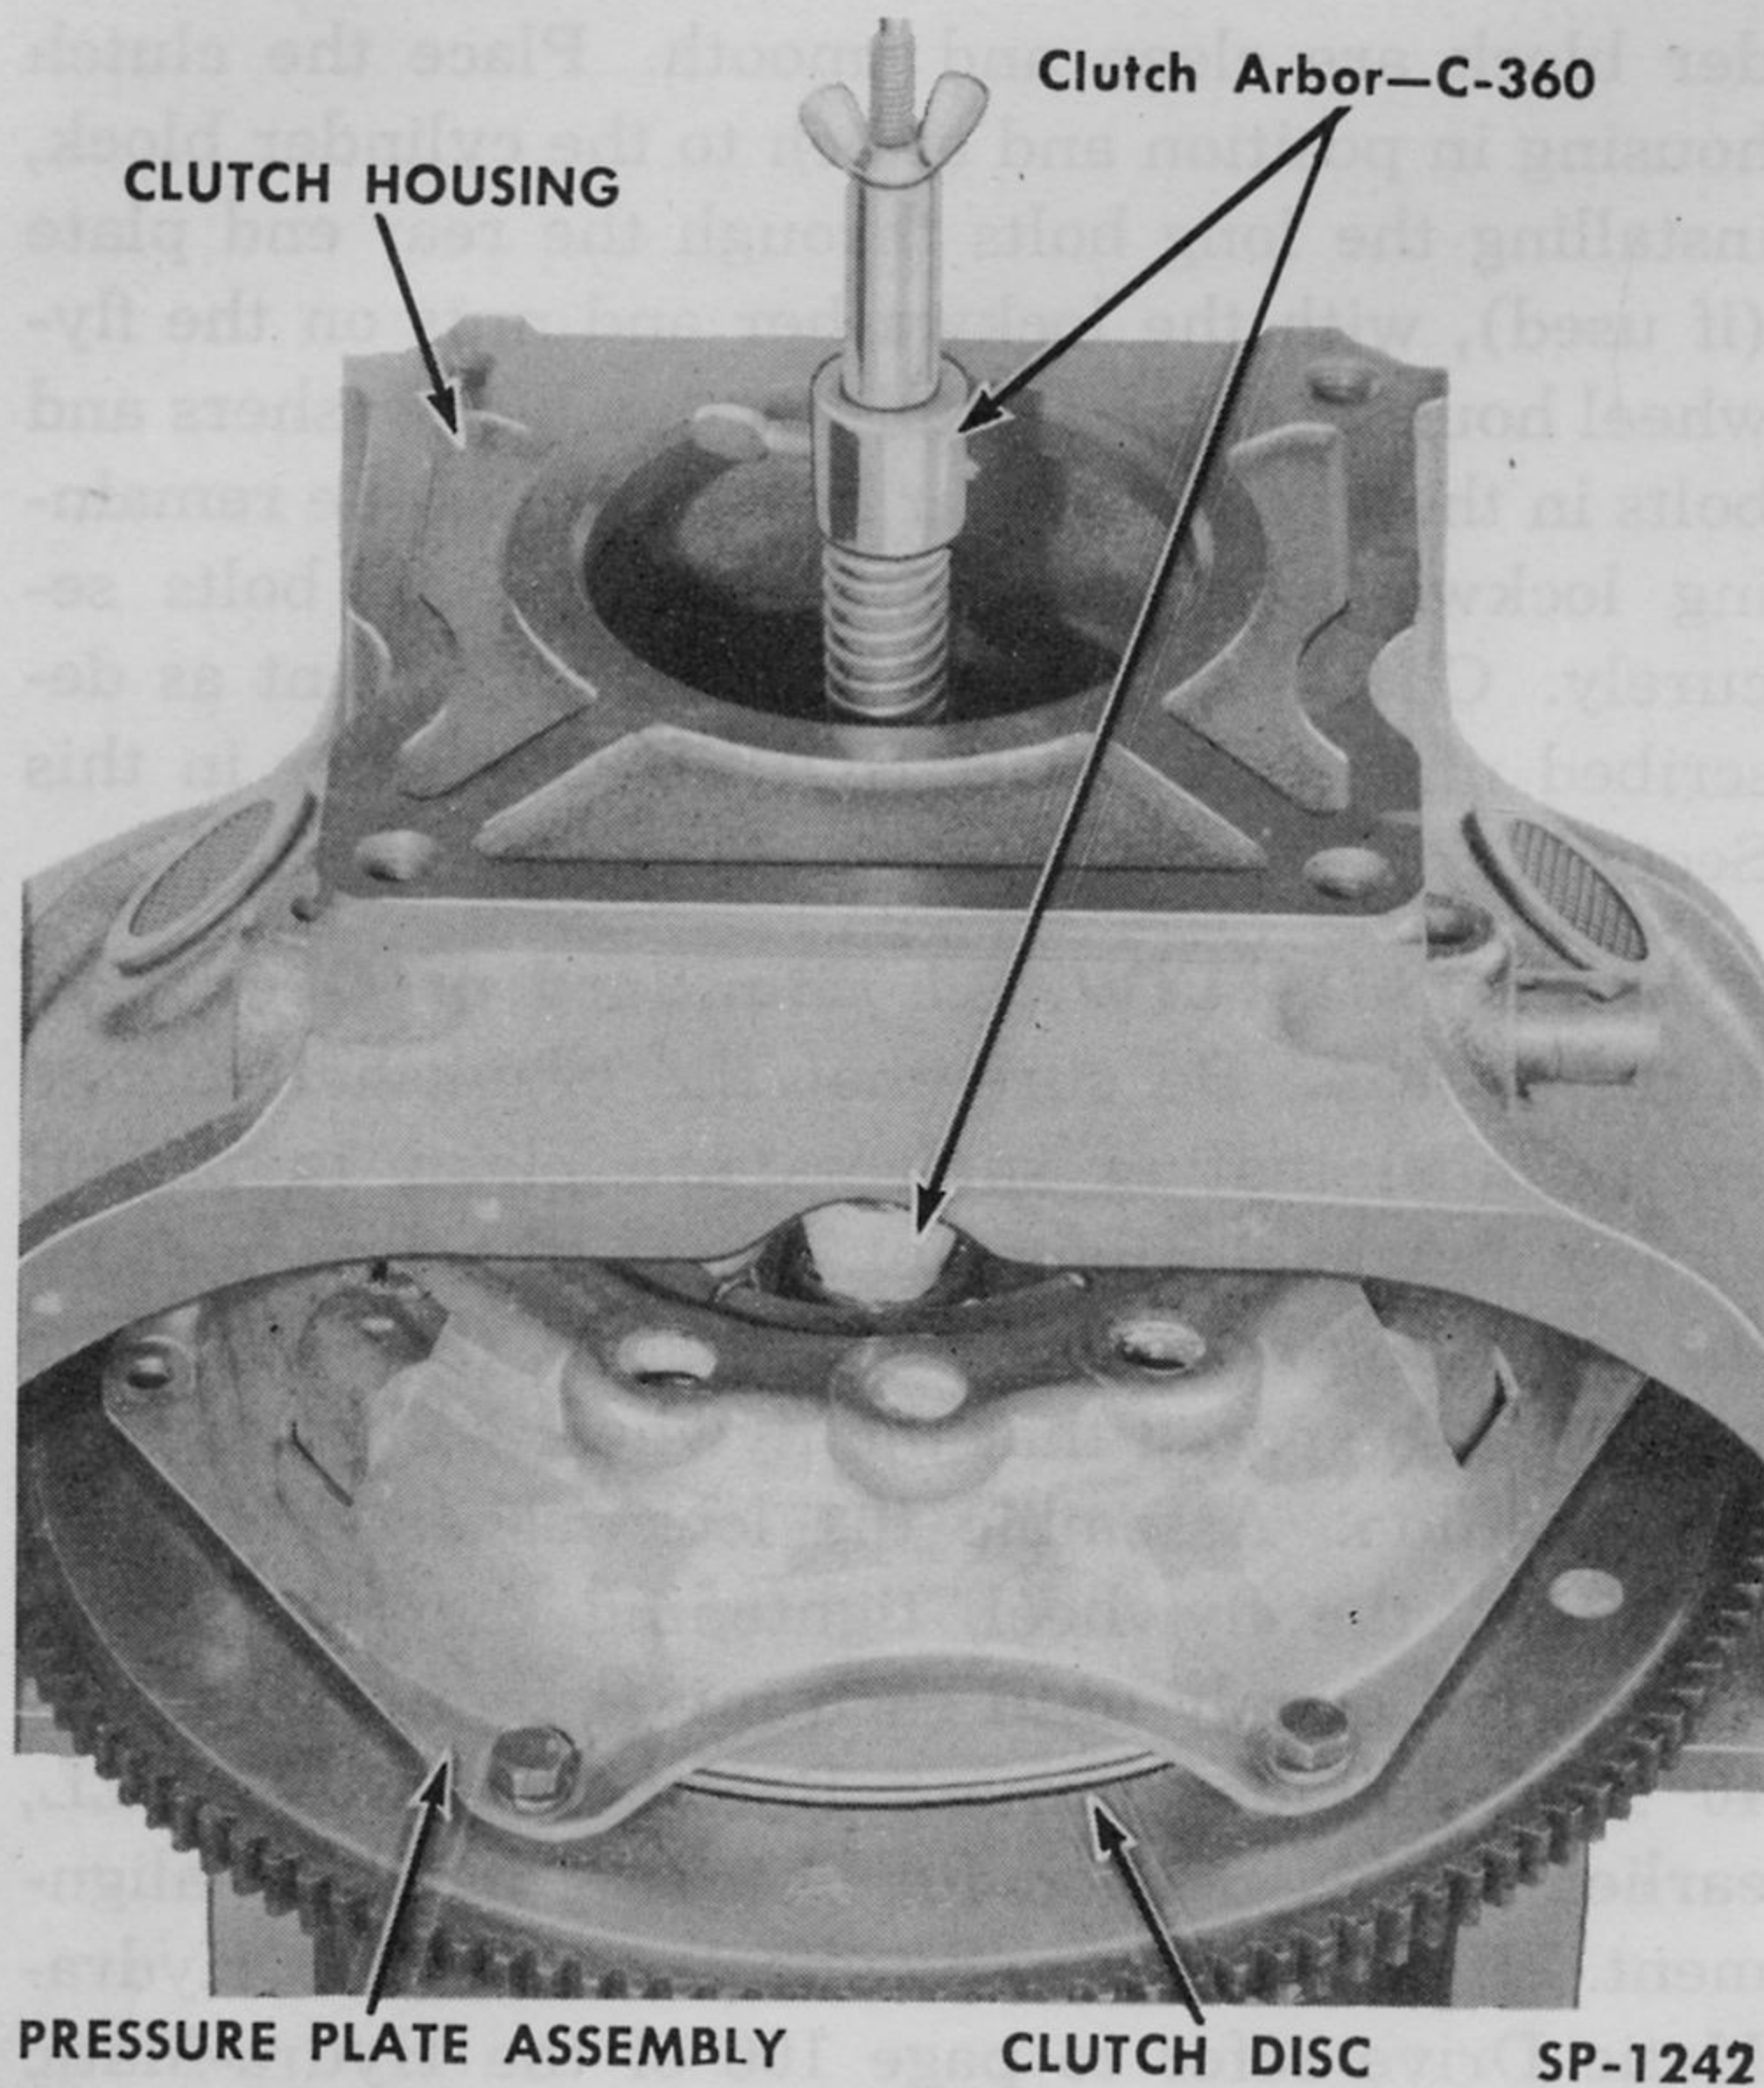

Fig. 90—Installing Clutch on Flywheel
l. INSTALL CLUTCH. To install the clutch assembly with the engine out of the vehicle, use Clutch Plate Aligning Arbor C-360. Placing the clutch disc in position against the flywheel, insert the Arbor into the crankshaft pilot bushing and against the clutch disc expanding the Arbor in the bushing to hold it in place (Fig. 90).